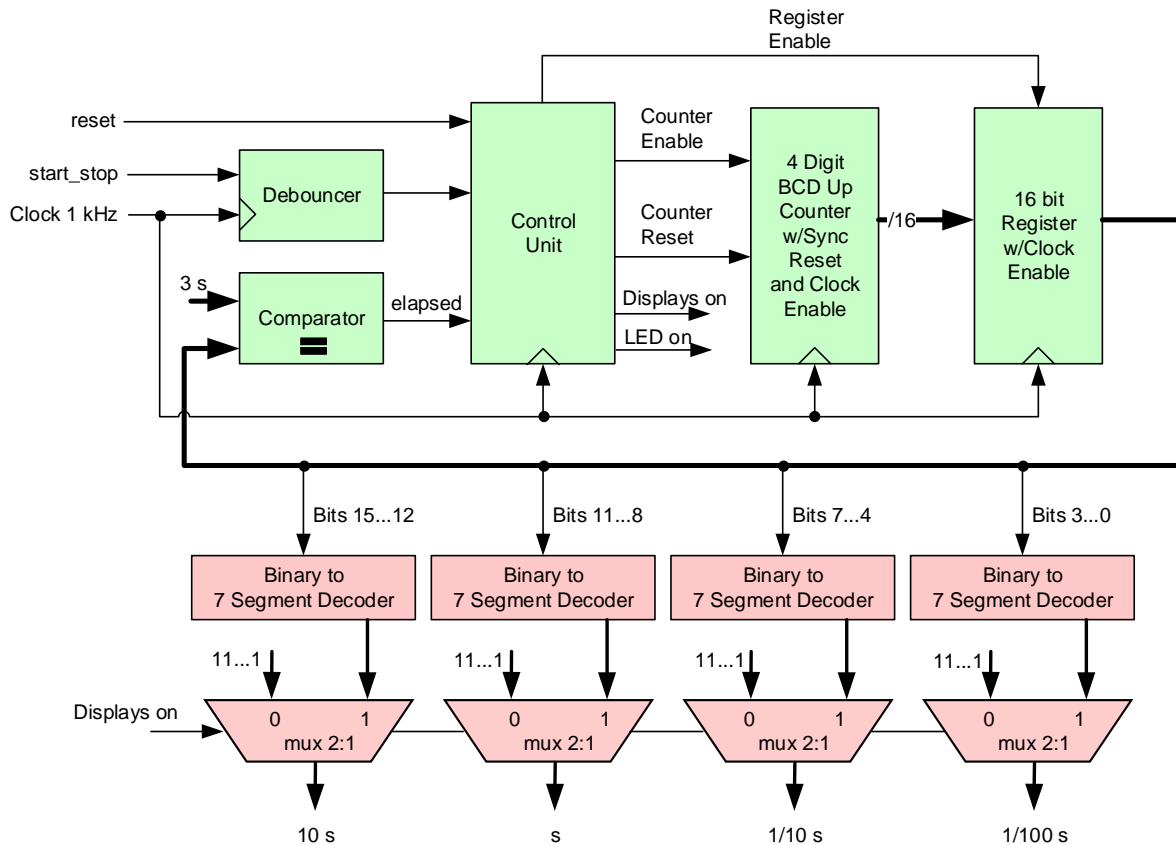

Figure 2 – Architecture of the block “Reaction Timer” from Fig 1.
7. The implemented reaction timer has quite a limited functionality because it always switches on the stimulus LED after 3 seconds. It would be more interesting if the timer would activate the stimulus at random times. Modify the module *ReactionControl* and the architecture from Fig. 2 so that the LED would be switched on 0-9 seconds after pressing the button *start_stop*.